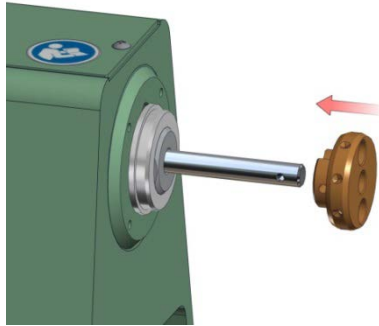

Figure 4.8.4
4. Slide the Rotary Disk (Item 9, Figure 7.4) over the exposed Spindle end. See Figure 4.8.4 below.